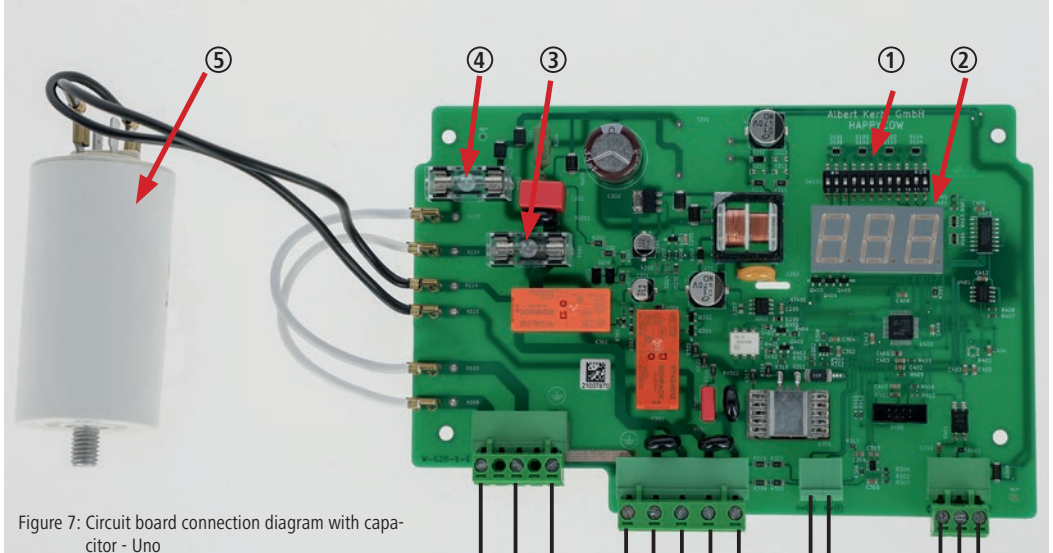

Figure 7: Circuit board connection diagram with capacitor - Uno
The cycle time is set at the factory to 60 seconds. If necessary, this can be adjusted using the dip switch element on the circuit board (Fig. 7 - item 1) to a value between 10 and 300 seconds. The cycle time may only be reset following consultation with Kerbl. The default setting and therefore the ideal setting for the Cow Cleaning Machine HAPPYCOW Uno is T3.
Fuse 6, 3 A (Fig. 7; item 3+4) on the circuit board has burned through or has come loose.	<ul style="list-style-type: none"> <li>• Disconnect the control unit from the mains and secure it against being switched on again.</li> <li>• Check the secure position of the fuses. Replace defective fuses. (Fig. 7 – item 3+4)</li> <li>• If there is no indication on the display when restarting with replaced fuses, then the main board is defective.</li> </ul>